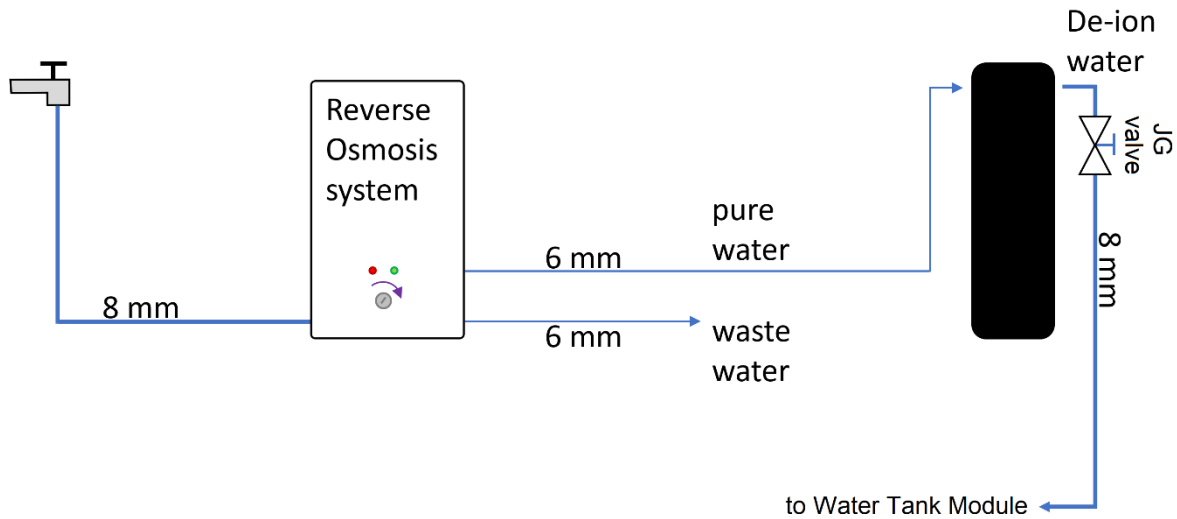

Figure 1: Set up Overview
- According to your needs, use piece n.6 or pieces n.1 and n.5 together (with or without cap), connect an 8 mm Ø LLDPE pipe to the tap. The other end of the pipe must be inserted in the “Ingresso Acqua” port, using connectors n.2 and n.3 together. Cut the pipe according to your site. Cutting it, please consider that you will need another 8 mm Ø LLDPE pipe from the Resins bottle to the Water Tank Module 2.0 (see Figure 1).
- Connect the outlet of the resins bottle to the inlet of the Enapter’s Water Tank Module 2.0 port W1.5, using an 8 mm Ø LLDPE pipe. Place right after the Resins bottle the provided 8mm John Guest valve (see Figure 1).